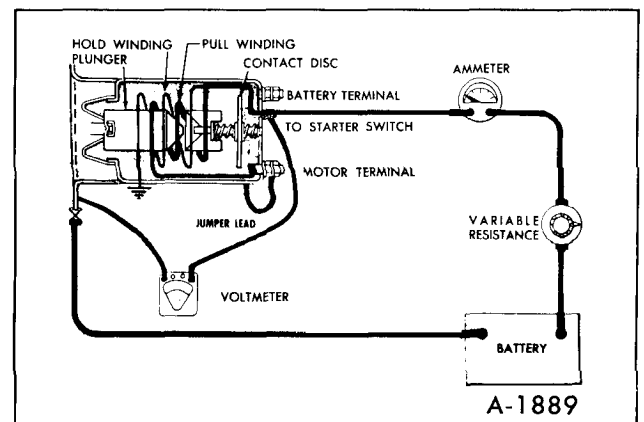

Figure 50—Checking Solenoid Wiring
e. Check the current draw of the solenoid winding as follows: (figure 50).